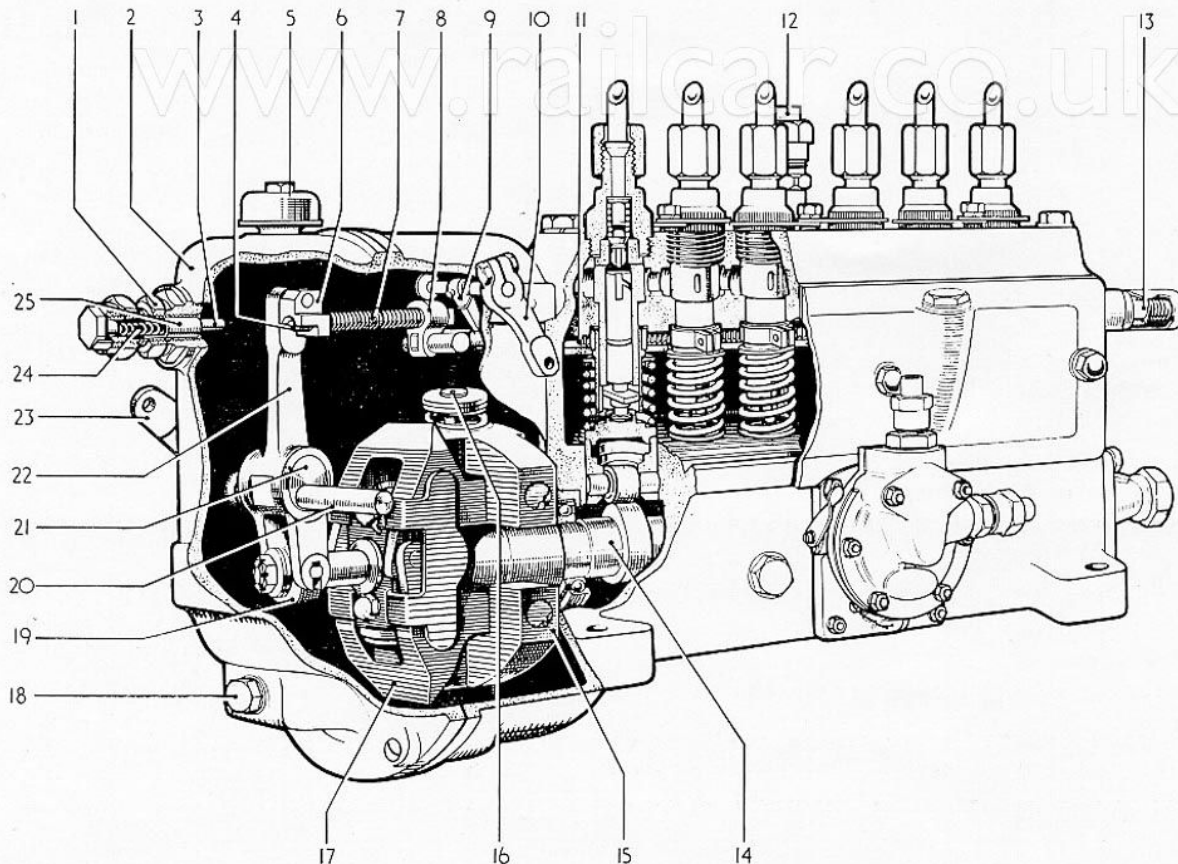

FIG. 1. CUT-AWAY VIEW OF GOVERNOR
The governor is of conventional, centrifugally-actuated, fly-weight design, the motion of the weights being transmitted to the fuel injection pump control rod through suitable linkage. See Fig. 1.
The governor is provided with a manually operated stopping control of the type illustrated in Fig. 1. The parts shown comprise, a control lever (10) and spring-loaded pawl (9) attached firmly to a cross shaft. One end of the link screw (4) is threaded into the floating lever link (6), while its other end is free to slide in the control rod link block (8).